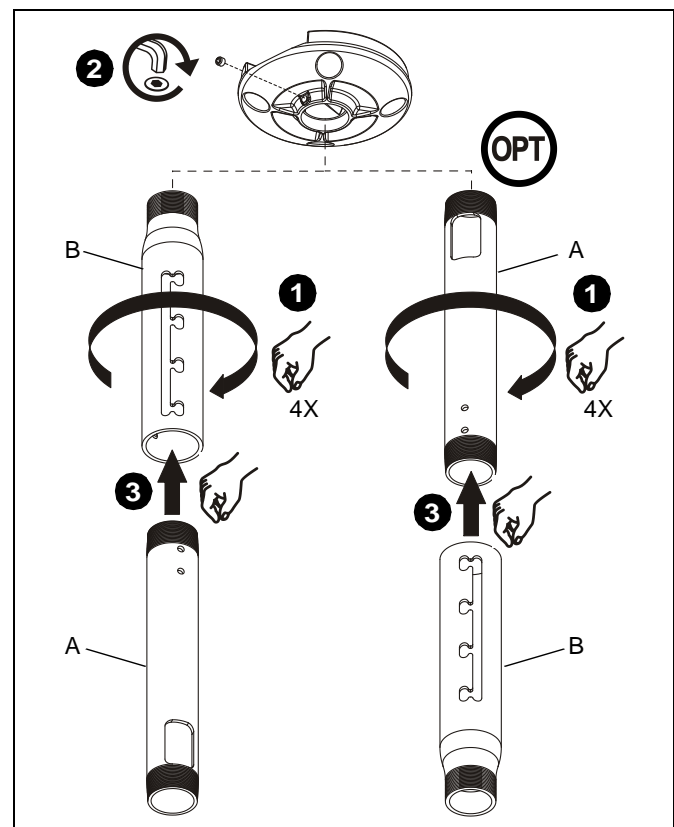

Figure 2
1. Install 1-1/2" NPT threaded column (A or B, as applicable) into plate/adapter (See Figure 2). Securely tighten column.
- Ensure cable access opening is rotated to desired position (optional installation, column (A)).
2. Secure column (A or B, as applicable) by tightening set screw in plate/adapter (See Figure 2).
3. Install mating column (A or B, as applicable) (See Figure 2).